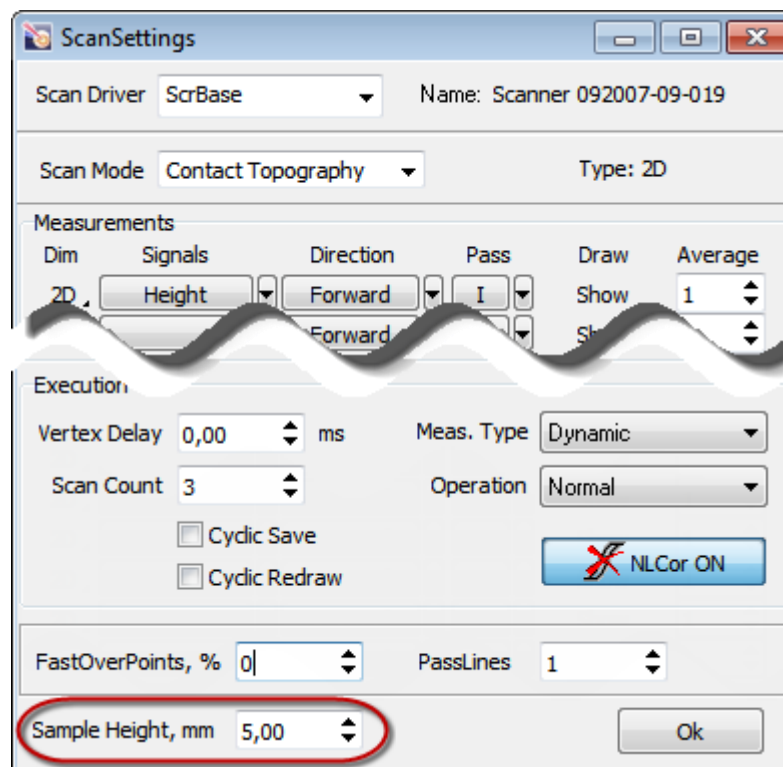

Fig. 6-9. Setting the sample height
2. In the **SampleHeight** input field (Fig. 6-9), enter the desired composite sample height.